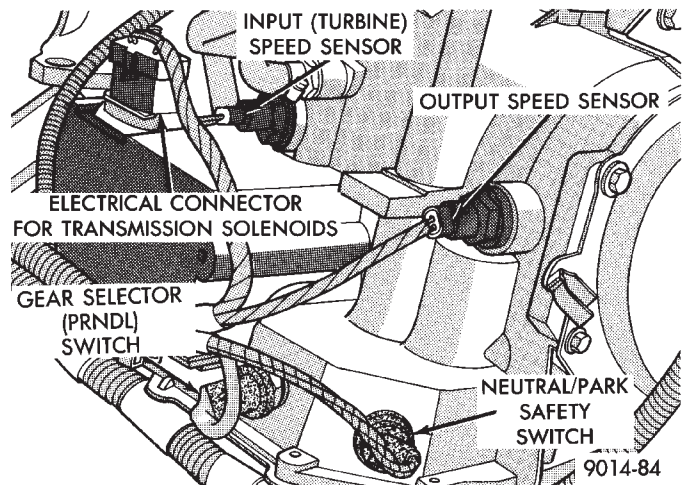

Fig. 10 Automatic Transmission Electrical Connections
(18) Inspect the park/neutral switch wiring connection for damage. Ensure the automatic transmission electrical connections are not damaged (Fig. 10).